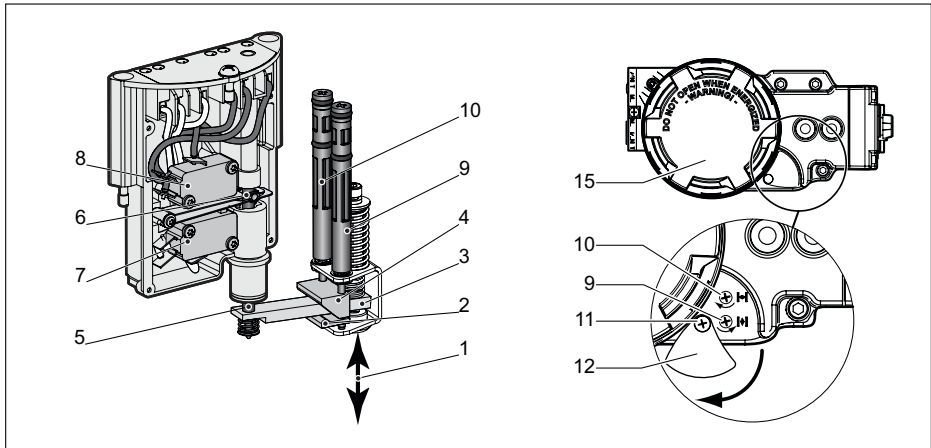

Fig. 5.2 Working principles Switch Operating Mechanism
The QC40 ASI Control Module is equipped with non-intrusive switch point adjustment. The adjustment screws are accessible behind a shield in the front of the module (see fig 5.2).
- In this case the top adjustment screw (see Figure 5.2), sets the switch point of the “Closed” position and bottom adjustment screw sets the switch point of the “Open” position.
### 5.1.5 Working principles Switch Operating Mechanism (see Figure 5.2)